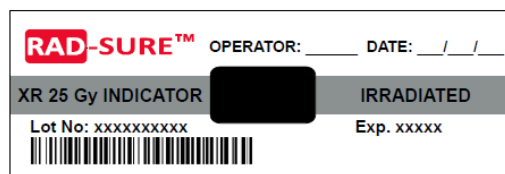

Figure 1b
7. After irradiation, check the indicator to verify that the window is black and obscures the word "NOT". The indicator should now read "IRRADIATED" (see figure 1b). If the word "NOT" remains visible, notify your supervisor immediately.